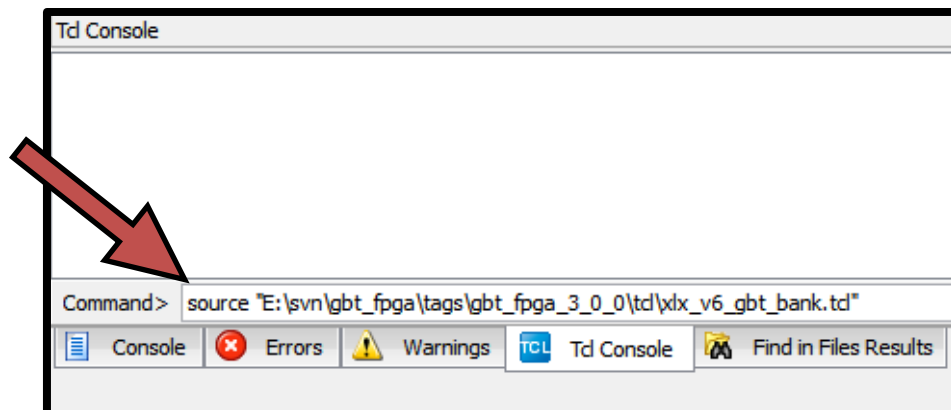

Figure 19: Writing the TCL command for running the TCL script in the Tcl Console of ISE
6. Type the command for running the TCL script in the Tcl Console (see Figure 19). The command is shown next: